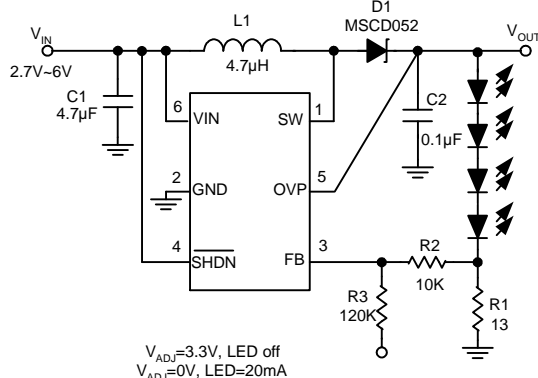

Figure. 2 Brightness Control by an adjustable DC voltage
a. Using an adjustable DC voltage applied to the R3 is shown in figure. 2.
In figure 2, an additional network (R2 and R3) is connected between the FB, the junction of the LED cathode and R1. An adjustable DC voltage (V_{ADJ}), connected with R3, injects a constant current ($I1$, $I1=(V_{ADJ}-0.25V)/R3$) into the FB node when the FB voltage is regulated at 0.25V. Therefore, the voltage across R1 is reduced by the offset voltage ($I1 \times R2$), reducing the LED current and brightness. The LED current is calculated by the following equation: